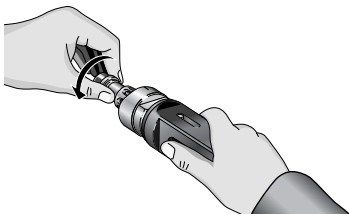

Figure 9 – Inserting the Draw Bolt
4. Insert the draw bolt through the fitting and into the expander. Firmly hand tighten the draw bolt (Figure 9). Make sure that the fitting is seated on the attachment and the draw bolt is secure. Improper mounting of the fitting to the expander can cause damage or make an incomplete connection.